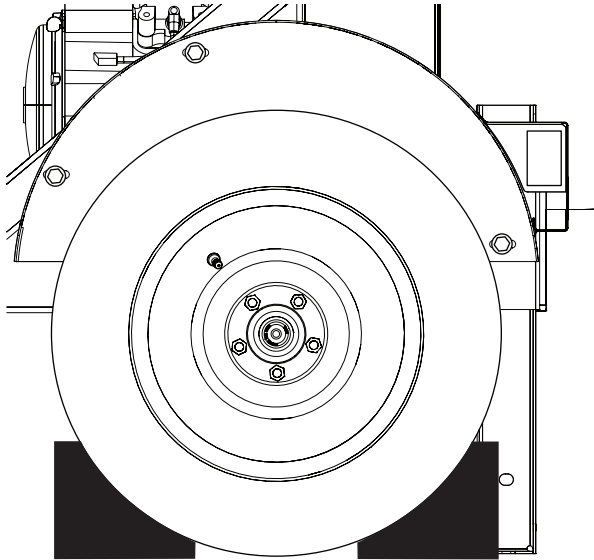

Figure 4-5. Wheel Chocks
8. Block the wheels to prevent the machine from moving. See Figure 4-5.